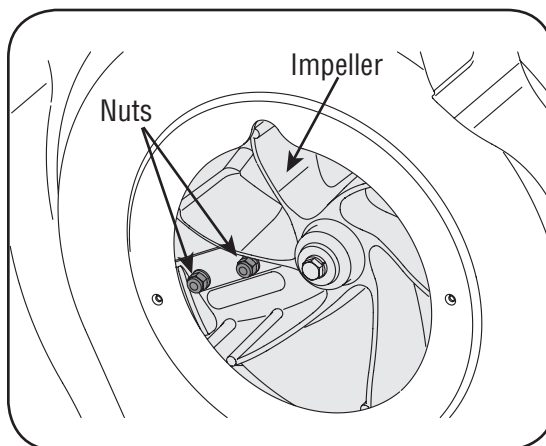

Figure 5-8
- The nuts on the flat head cap screws can be reached from underneath using a 1/2-inch socket, universal, and extension. See Figure 5-8.